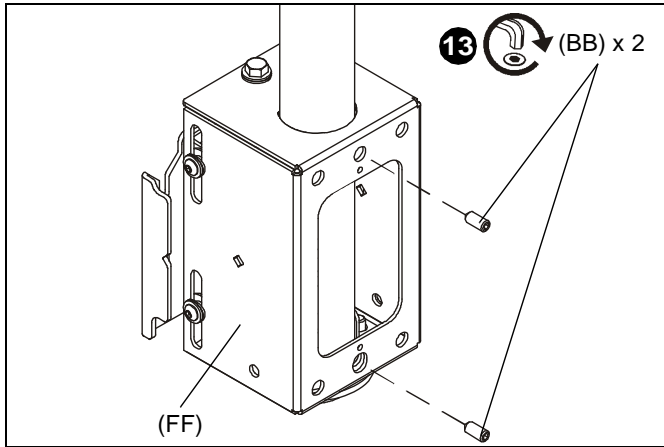

Figure 4
13. Tighten two 5/16" x 3/4" set screws (BB) against column. (See Figure 4)